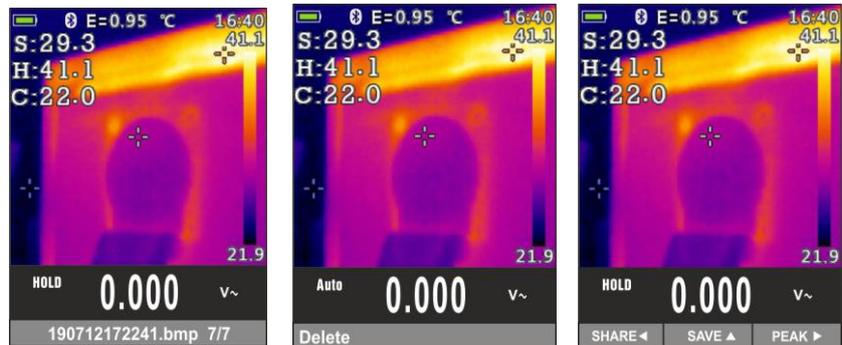

Fig. 46: Recalling and deleting IR images
11. Enter the General menu to display the saved result (see Fig.46 – left side)